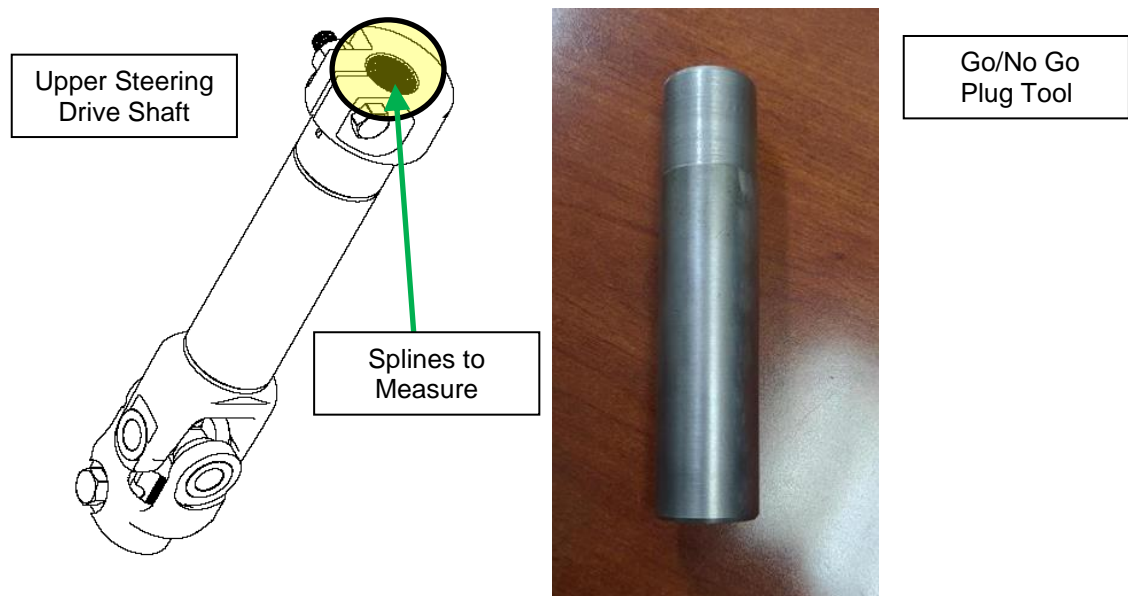

Figure 2: Upper Steering Shaft Measurement
7. Using the PSS Go/No Go Plug tool measure the solid, splined end of the upper steering drive shaft. See Figure 2.